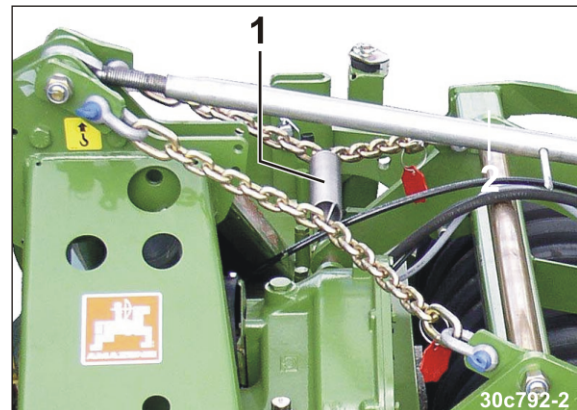

Fig. 79
6. Connect the chains using a tension spring (Fig. 79/1). When untensioned, the chains should not touch the tower of the soil tillage implement.